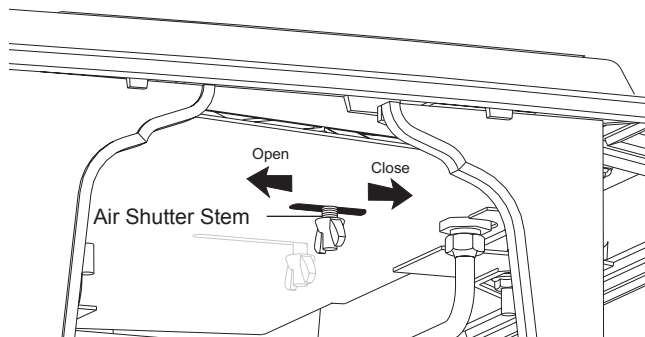
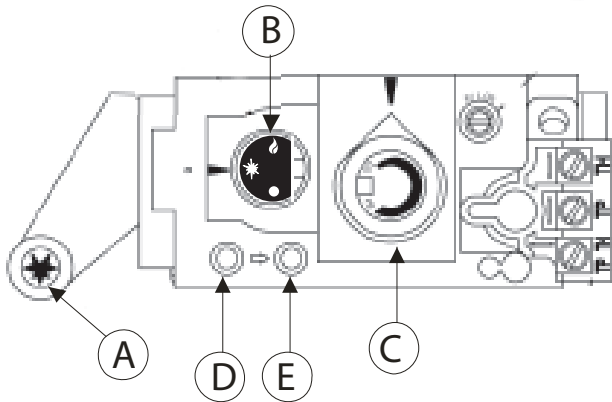
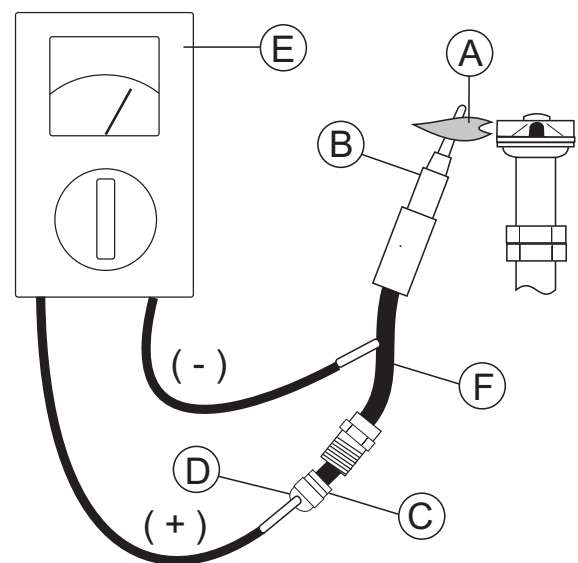
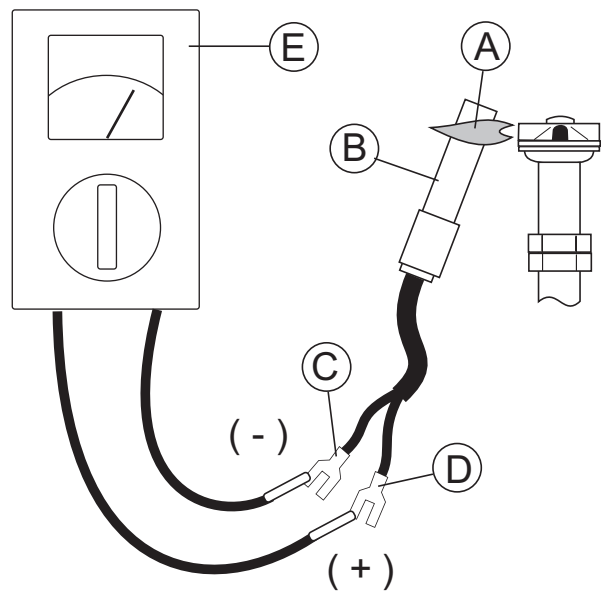

Figure 20. Loosen wingnut under the firebox to adjust air shutter.
Figure 23. Valve Controls.
Figure 26. Thermocouple system check.
Figure 27. Thermopile system check.
Burner adjustments must only be performed by qualified personnel. To adjust the air supply, loosen the right wingnut located under the stove next to the fuel line. See fig. 20. Adjust the air opening by pulling the air shutter to the correct air inlet opening. See fig. 21.
The valve control knobs are located on the front of the appliance behind the control cover plate. See fig. 23.
2. Push in the gas control knob on the front of the valve ("B", fig. 23), and turn clockwise to the OFF position, ● .
Heat and flame size can be adjusted by turning the regulator knob (C) marked "HI, LOW", which is located next to the gas control knob (see fig. 23). Maximum flame size provides maximum heat. Make sure the appliance has been operating for at least 30 minutes before adjusting the flame.
Push the ON/OFF switch at the rear of the appliance to "OFF". The pilot flame will continue to burn. In order to fully extinguish the appliance, push in the gas control knob (B) (fig. 23) a little and turn clockwise to OFF, . Do not use force.
If the pilot does not light after attempts to clear the tube system of air, it indicates a problem with the gas tank/cylinder or a leak in the gas tube. Check the gas pressure as instructed in the section Gas Installation on page 10 and determine if the fault/leak is before or after the valve on the appliance. If the gas pressure at outlet D (fig. 23) is too low or there is no gas pressure at all, the fault or leak must be located before the valve on the appliance. If the gas pressure is OK at outlet (D), but too low at outlet (E), then the fault or leak must be located after the valve.
This is the trouble-shooting procedure for the gas supply: Remember to push in the gas control knob for at least 30 seconds. Make sure the flame is centred at the thermocouple. Make sure the thermocouple is enveloped by the flame up to at least 3 mm (1/8") from the tip (fig.20).
If the flame is abnormally large or small, check the gas pressure first. See section about gas pressure, page 10.. Then check for errors, dirt or corrosion on the pilot burner (fig.20), the pilot orifice and the gas supply to the pilot burner.
## Thermocouple (Fig. 26) and Thermopile (Fig. 27)
This is the trouble-shooting procedure for the thermocouple, fig. 26, B: Check the copper wire (F) of the thermocouple for cracks or damage.
Make sure the flame is centred at the thermocouple. Make sure the thermocouple is enveloped by the flame up to at least 3 mm from the tip (see fig.20). Check the voltage generated by the thermocouple. Connect the multimeter (fig.26-E) with plus to the ball point (D) at the end of the copper wire. Connect minus to the copper wire. Light the pilot (A) and hold in the control knob to prevent the flame on the pilot burner from going out. At this point the multimeter should show 14-28 mV. the thermocouple. Note that there are 2 threaded holes (fig. 16-B) and (C) that can be used when installing a new thermocouple. Make sure the blue wire (A) is fastened at the same threaded hole. The nut on the thermocouple must not be tightened too much, just a 1/2 turn. If the gas pressure is correct and the possible faults above have been checked, the pilot flame can be adjusted with the adjusting screw. The gas volume is increased when the screw is turned anti-clockwise.
This is the trouble-shooting procedure for the thermopile (fig. 27):
8. Check the voltage generated by the thermopile (see fig 27). Connect the multimeter with plus to one cable clip (D). Connect minus to the other cable clip. Light the pilot and make sure the control knob remains on "PILOT" (fig. 23-B). At this point the multimeter should show 500-700mV.